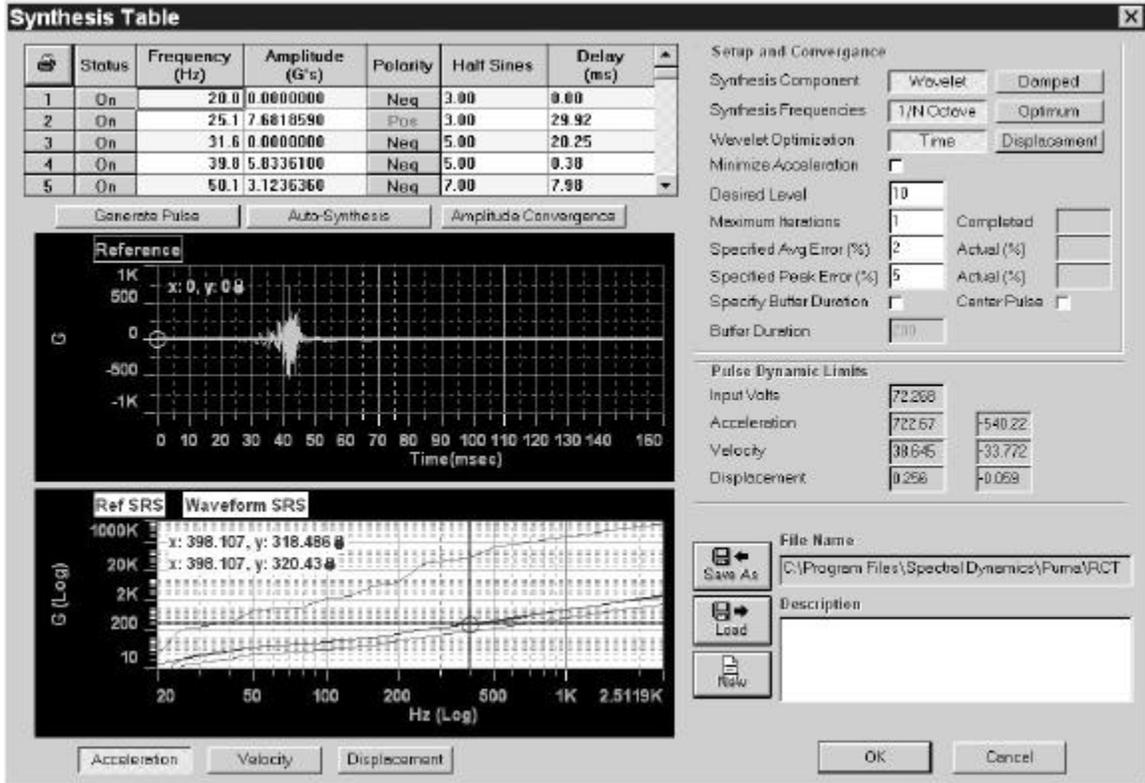

Figure 1-6. Synthesis Table Window From Synthesis Define Menu Option
4. Input the required parameters and save them to a file. The Synthesis Table is generated from this information. See Figure 1-6.